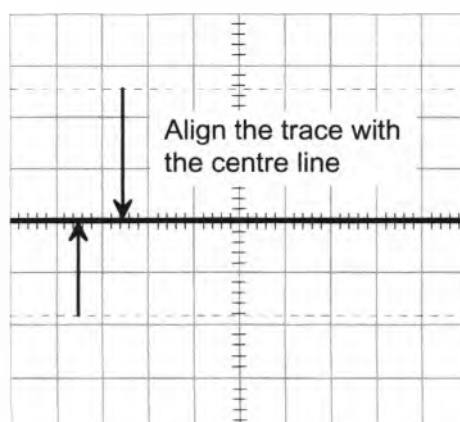

Figure 6
3. Adjust the *Vertical Position* control so that trace aligns with the graticule's centre horizontal line (see Figure 6).